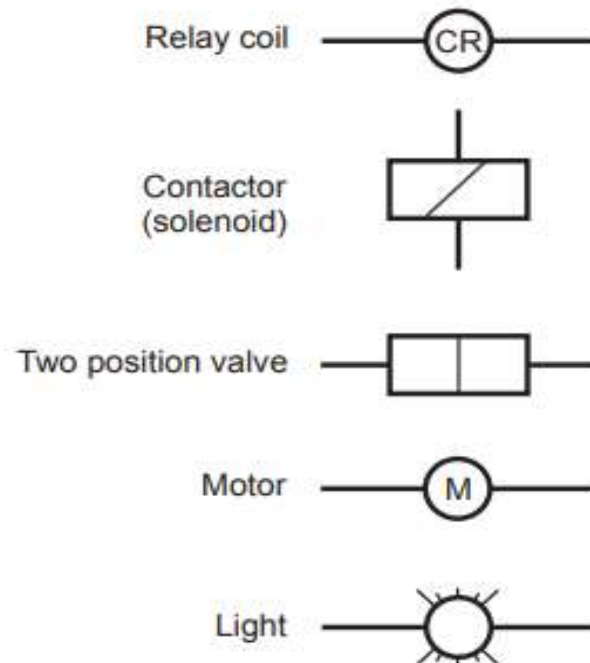

Fig. 4.13.7 Output device symbols
- Some output devices are : Relays, contactors, valves, motors, solenoid and lights for visual indications. Fig. 4.13.7 shows the symbols of output devices.